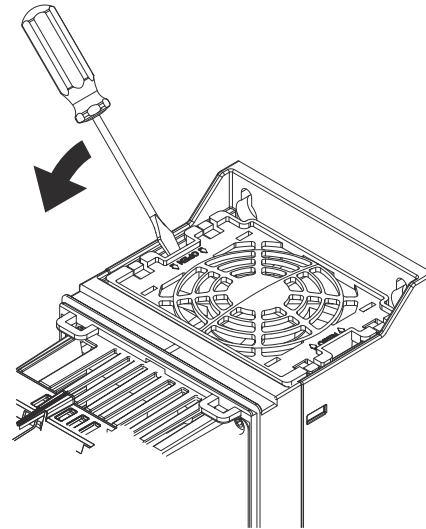

Fig. 44 — Remove Top Cover/Fan Assembly on ACH580 VFD
3. Remove the top fan cover (see Fig. 44).